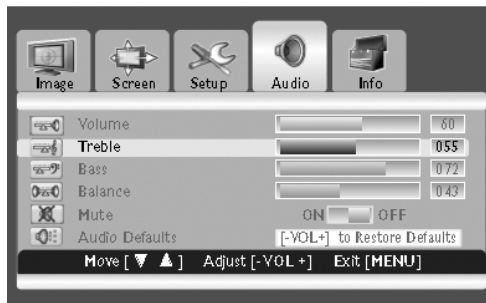

Figure 21. Sound Adjustment
3. Press the ▼ button to enter the selected menu group (refer to Figure 21).